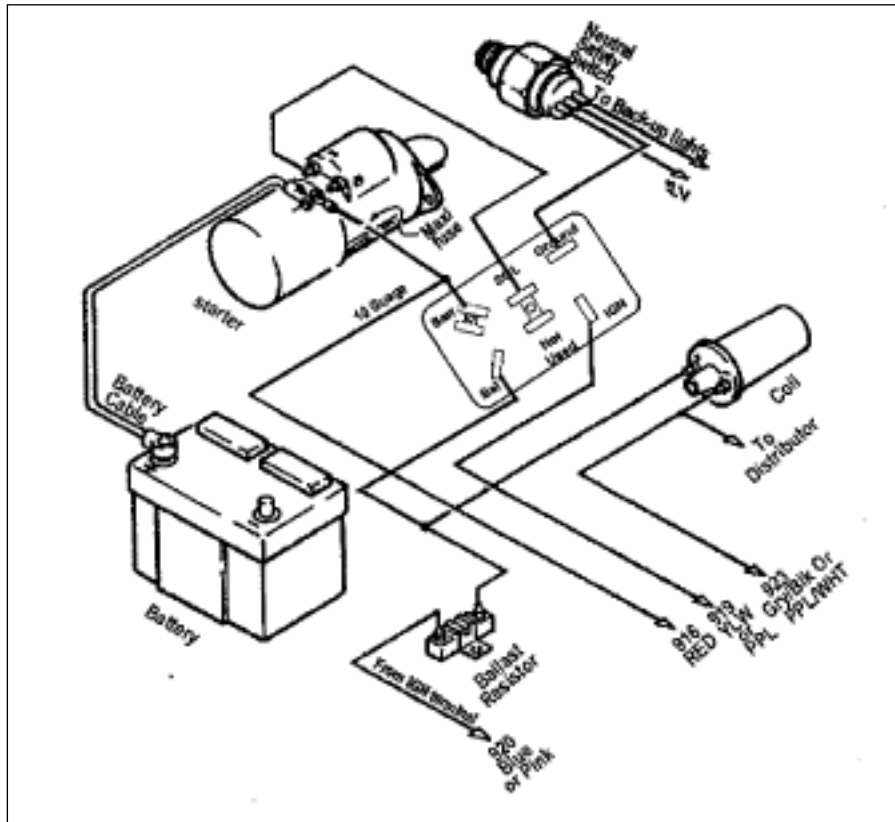

Figure 9-2B Mopar Ignition (Start/Run) with Universal Switch
- 9.2.11** Connect 920 (pink) to both dark blue wires as labeled in Figure 9-2B. Connect a ballast bypass wire as labeled in Figure 9-2B. **NOTE:** This ballast bypass wire will only provide 12 volts when cranking the engine. This is done for ease of starting the engine.